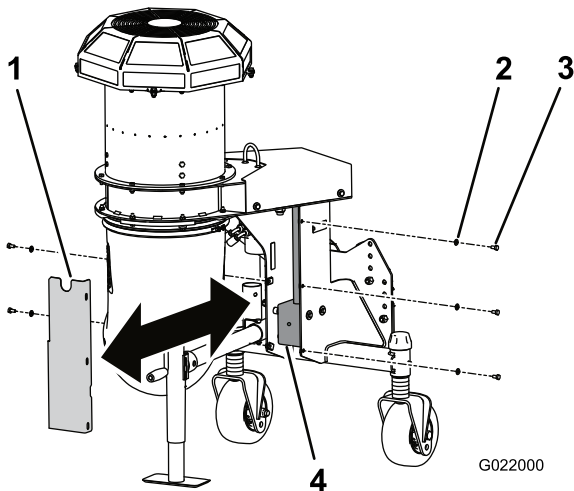

Figure 23
2. Remove the 5 bolts and washers securing the gear case cover to the blower (Figure 23).
3. Remove the cover to expose the blower gear case (Figure 23).